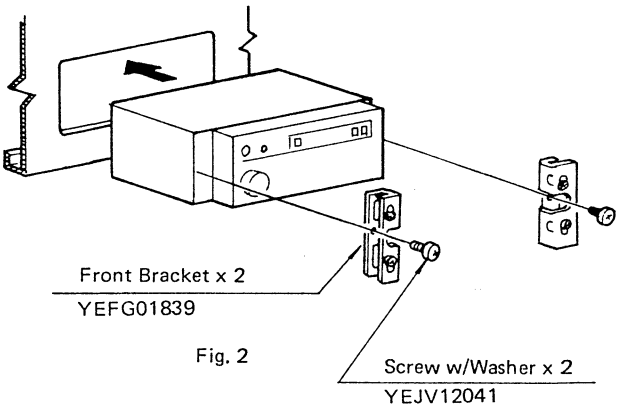
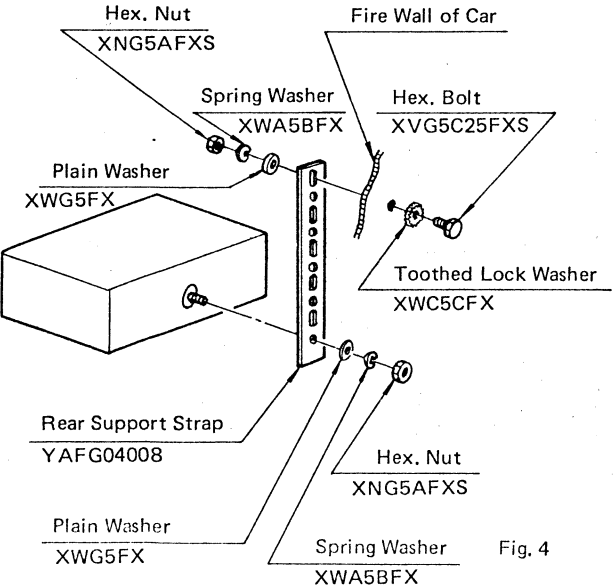

Fig. 2
Fig. 4
1. Fix the two (2) Front Brackets onto the left and right sides of the unit, as shown in Fig. 2.
2. Loosen the Back-up Metal on the Front Bracket by unscrewing the four (4) screws (two for each side).
3. Before definitely mounting the unit to the car's dashboard, see "To secure the rear of the unit" explained below and check whether the rear of the unit is properly fixed to the Fire Wall of Car. Refer to any one of these figures, Fig. 4 or 5, that best suits stable installation of this unit. Also check the electrical connections by referring to the operating instructions. Mount the unit to the car's dashboard as shown in Fig. 2.
- **Using the Rear Support Strap (See Fig. 4)**